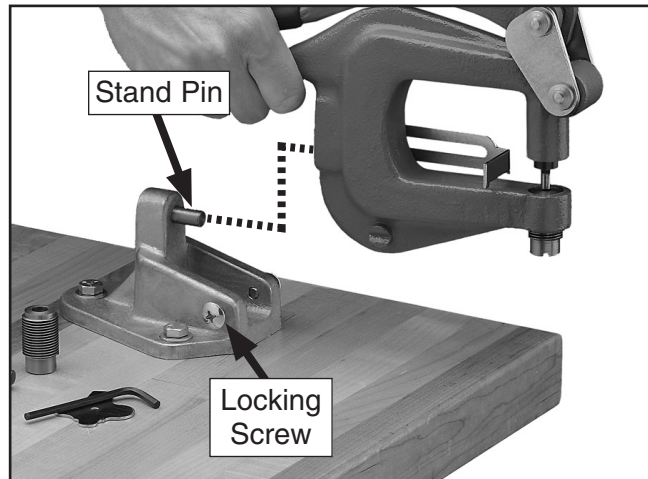

Figure 5. Attaching the hand punch to the stand.
2. Slide the hand punch onto the stand pin, as shown in **Figure 5**.